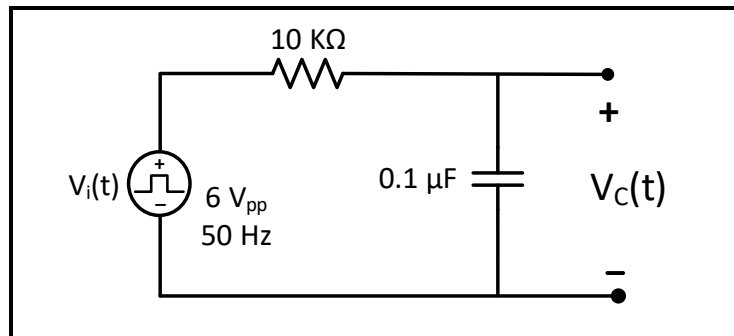

Figure 6.5
For the circuit of Figure 6.5:
1. Connect the circuit shown in Figure 6.5, with the function generator set to produce a square wave of: $V_{in} = 6\text{ V}_{pp}$, $f = 50\text{ Hz}$, and DC offset 3 V.